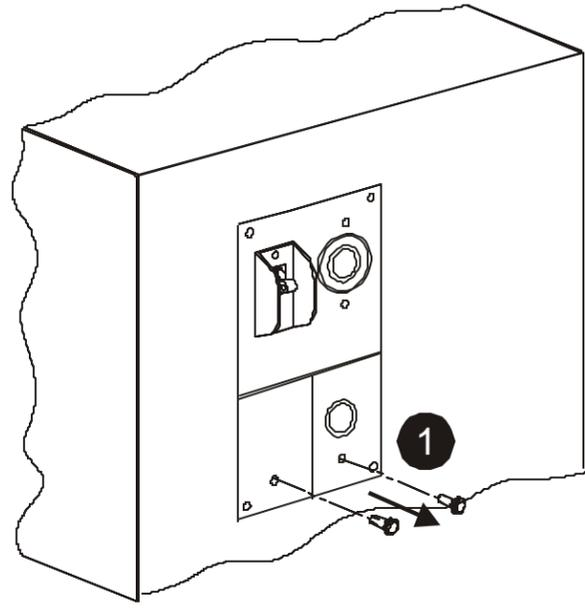

Figure 3.3 Remove Access Panels for Hard wire connections
1. Remove the two screws that secure the access panels to the PDU assembly as shown in Fig 3.3.